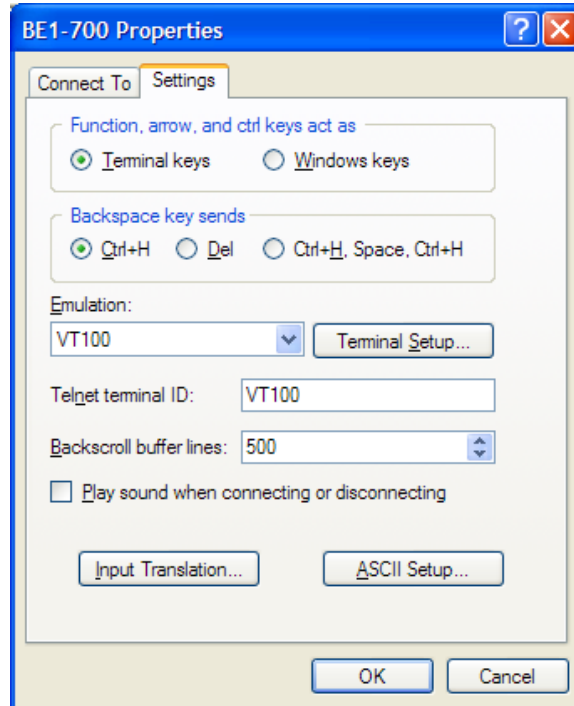

Figure C-4. Properties, Settings Tab
- a. Make the following selections using Figure C-4 as a guide: